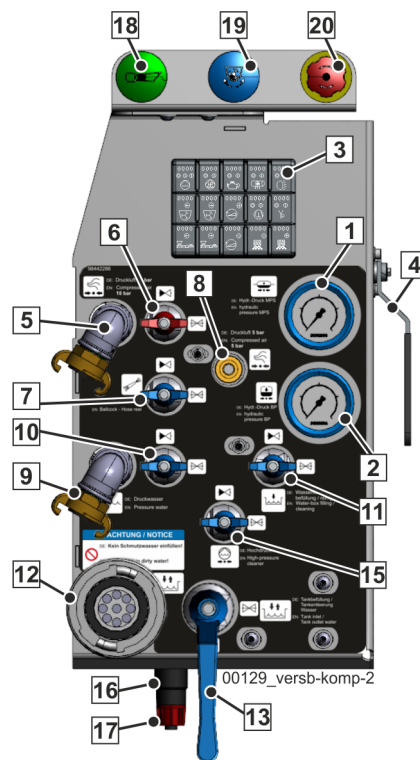

Fig. 47 Supply control
If the machine is equipped with a “C” water connection (12) (**Fig. 47**), exercise appropriate care when using it to fill the water case!
2. Connect the water supply to the water connection (12) (**Fig. 47**) and open the gate valve (13).